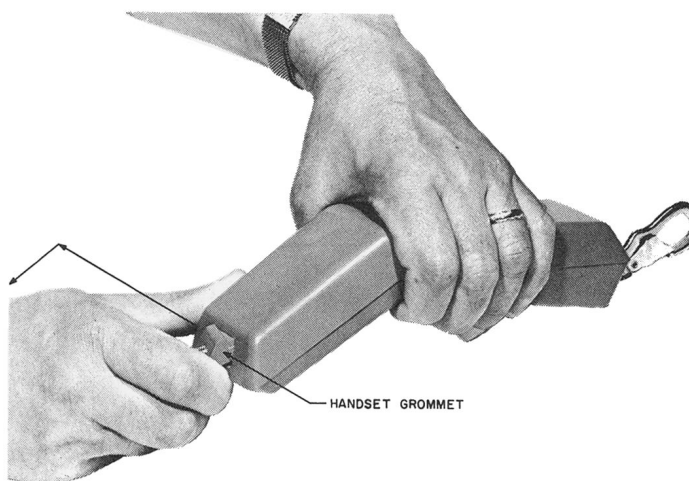
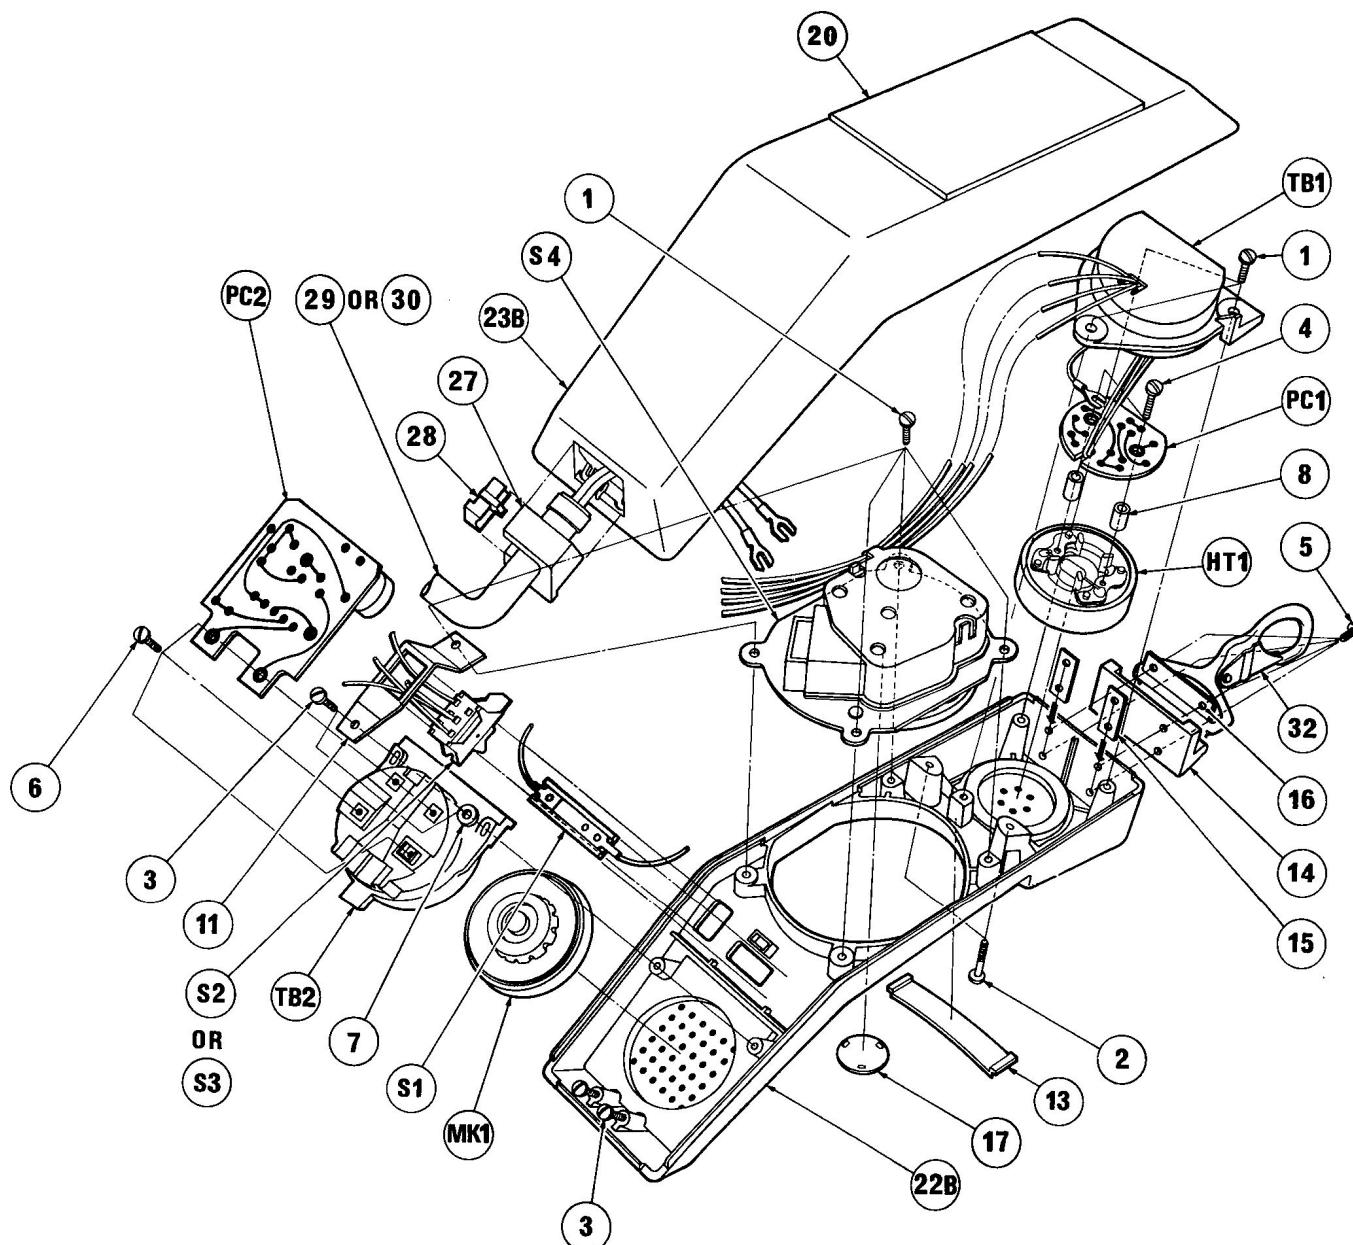

Fig. 8 — Removal of Handset Grommet
Fig. 9 — QSE4 Type Handsets — Assembly of Parts
1.08 Identification and assembly of parts is shown in Fig. 9 and Table C.
4.02 Disassembly of Handset (see Fig. 8 and 9) (item Nos. refer to Fig. 9).
(1) To remove the card retainer window (item 13), insert the tip of an NS-16750 L3 Releaser into the small slotted hole at the edge of the window. Ensure that the tip does not enter the hole by more than one-eighth of an inch, as an underlying screw may hinder the lateral motion of the releaser. Apply a slight lateral pressure to the handle of the releaser. The housing projection provides a fulcrum and this will bow the window upward so that its edges may be grasped with the fingertips of the other hand to spring it out.
(2) Remove the handset line cord grommet (items 27 and 28, Fig. 9) by turning the handset face down and pushing the cord into the grommet to release the pressure on the inside of the grommet, then exerting a lateral pressure, towards the rocker switch and an upward pressure (while retaining the lateral pressure), until the grommet comes out of the housing (see Fig. 8). This grommet is in two pieces.
(3) Once the grommet has been withdrawn, two screws (item 3) are exposed. Loosen these two screws by about three-sixteenths of an inch only, as it is not desirable or necessary to remove them.
(4) Free (do not remove) the two captive screws (item 2) in the card retainer well. Loosen the receiver end, then slide the smooth (back) half of the handset housing back to release this section from the slotted screw holes.
4.10 To Convert QSE4A Type to QSE4B Type (see Fig. 9 and 10):
- 5.01 Table C lists the components of the QSE4 type Handset as shown in Fig. 9.